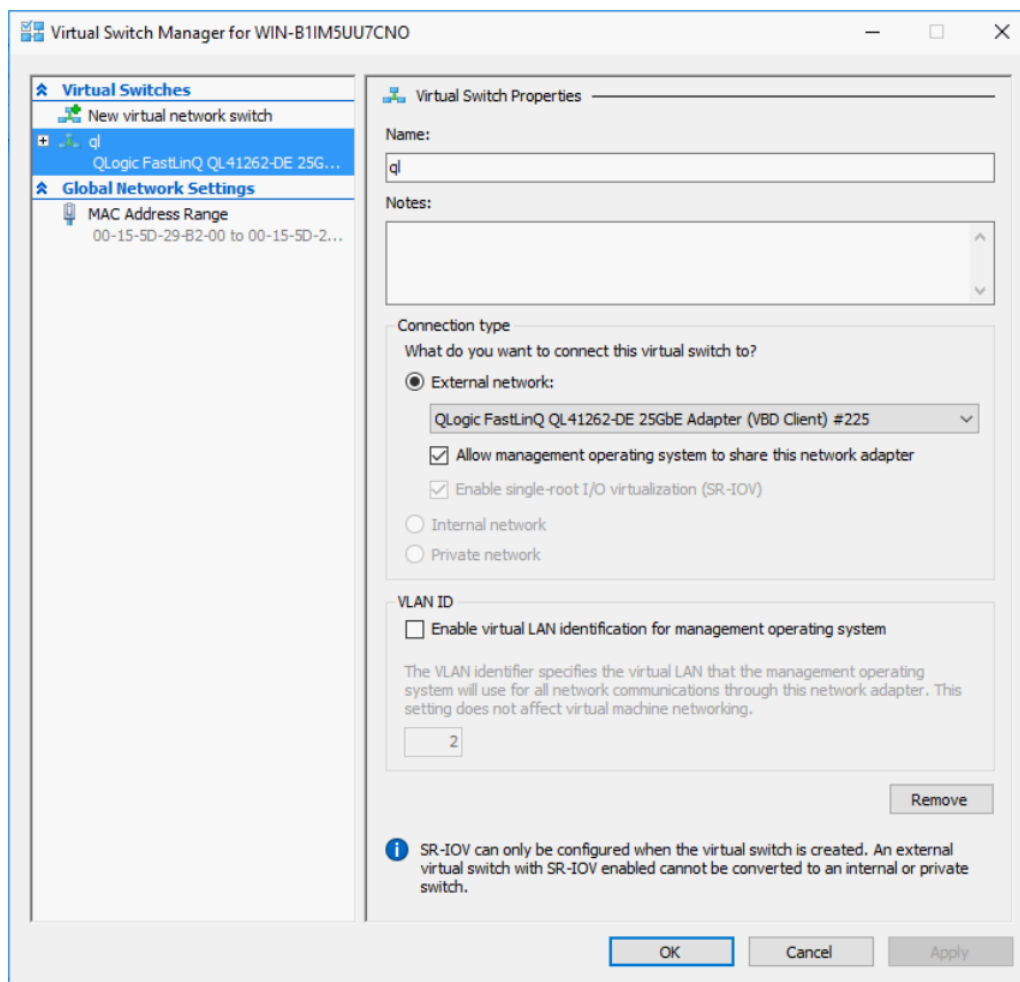

Figure 13-14. Virtual Switch Manager
2. Select **Virtual Switch Manager** (see Figure 13-14).